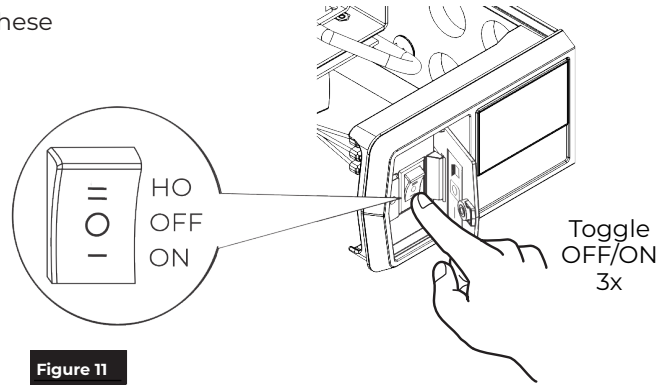

Figure 11
1. Turn on the operator Wi-Fi by toggling the 3-Position switch on end cap three (3) times. (Figure 11)